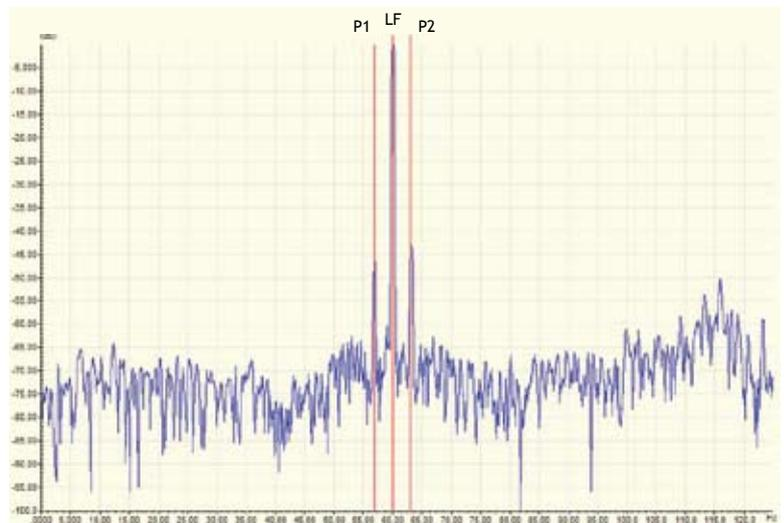

Figure 1 - Broken Rotor Bar Signature
When the Pole Pass Frequency sidebands (P1 and P2) of Figure 1 are compared to the values in Table 1, the condition of the rotor bars can be determined. However, in this case, the motor is 4,160 Vac and the data was taken from the Motor Control Center (MCC) Current Transformers (CT). The result can be a dampening effect on those peaks, resulting in the analyst needing to estimate the severity of the fault.